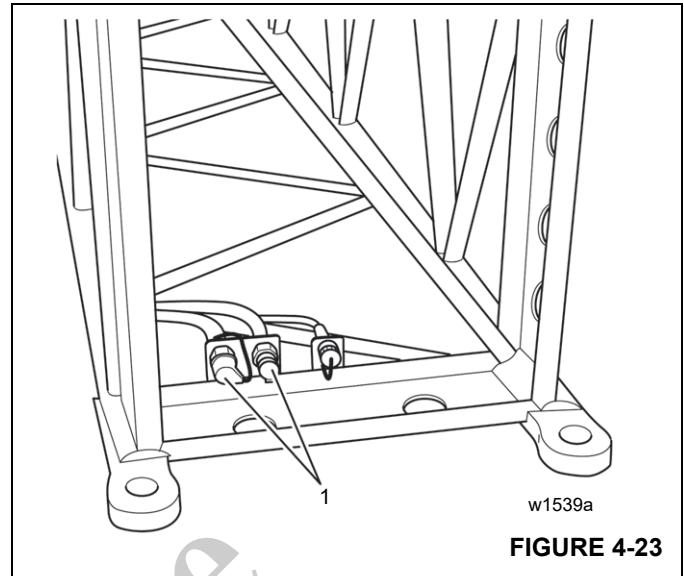

FIGURE 4-23
At the front of the 8 m (26 ft) inserts there are two quick couplings (1) (Figure 4-23).